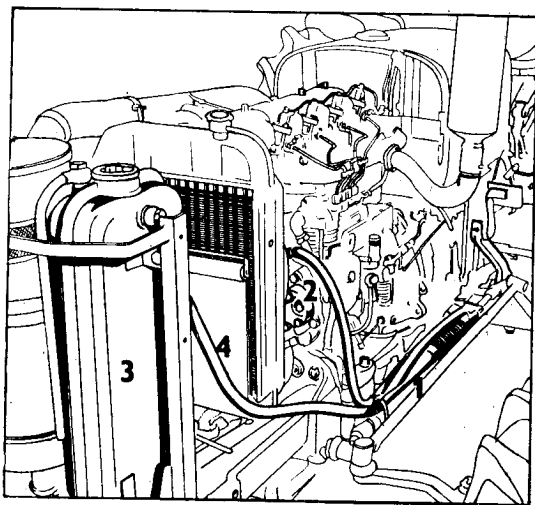

Fig. 18
Power Assisted Steering Mechanism (Fig. 18)
- a cylinder with the slide valve distribution (Fig. 18/1)
- a pump (Fig. 18/2)
- a tank and accessories (Fig. 18/3)
- high pressure hoses (Fig. 18/4).